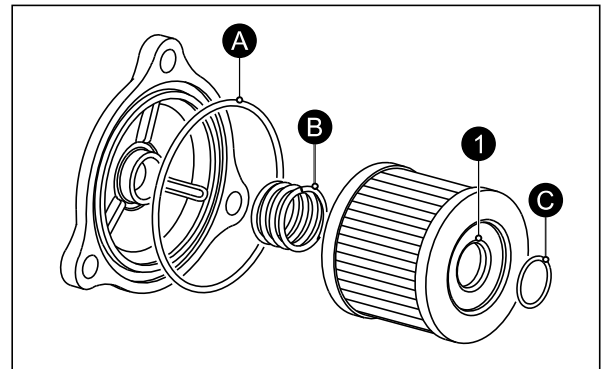

Fig. 2.37
While reassembling, ensure to assemble the 'O' rings (A & C) and spring oil filter (B). (Fig. 2.37)
Locate the seal end (1) of the filter towards crankshaft. (Fig. 2.37)